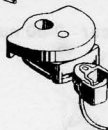

Fig.1
3. Use an appropriate Coupler (the correct shank offset and length for your model). The Swing Bracket may be mounted to the bottom or top of a surface and may be used right side up or upside-down. **See Fig.1.** Assemble the desired couplers as described in the coupler instructions (Coupler may be placed in top or bottom of draft gear box). In some cases surrounding edges may have to be trimmed out to allow for the swinging of the Coupler and Draft Gear Box, especially on tight 18" radius curves.